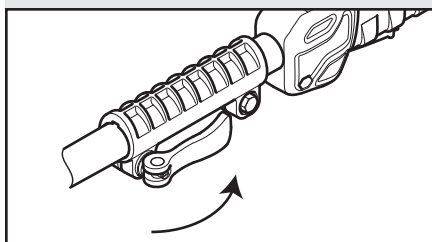

Fig. 2
3. When the attachment shaft is fully inserted into the locking collar, push the locking lever back toward the locking collar to lock the assembly together (Fig 2).